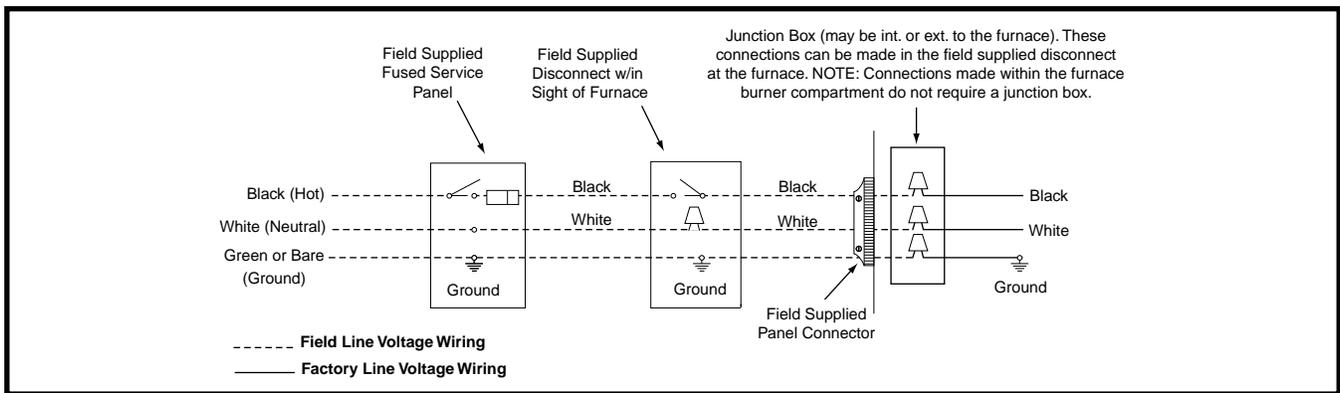
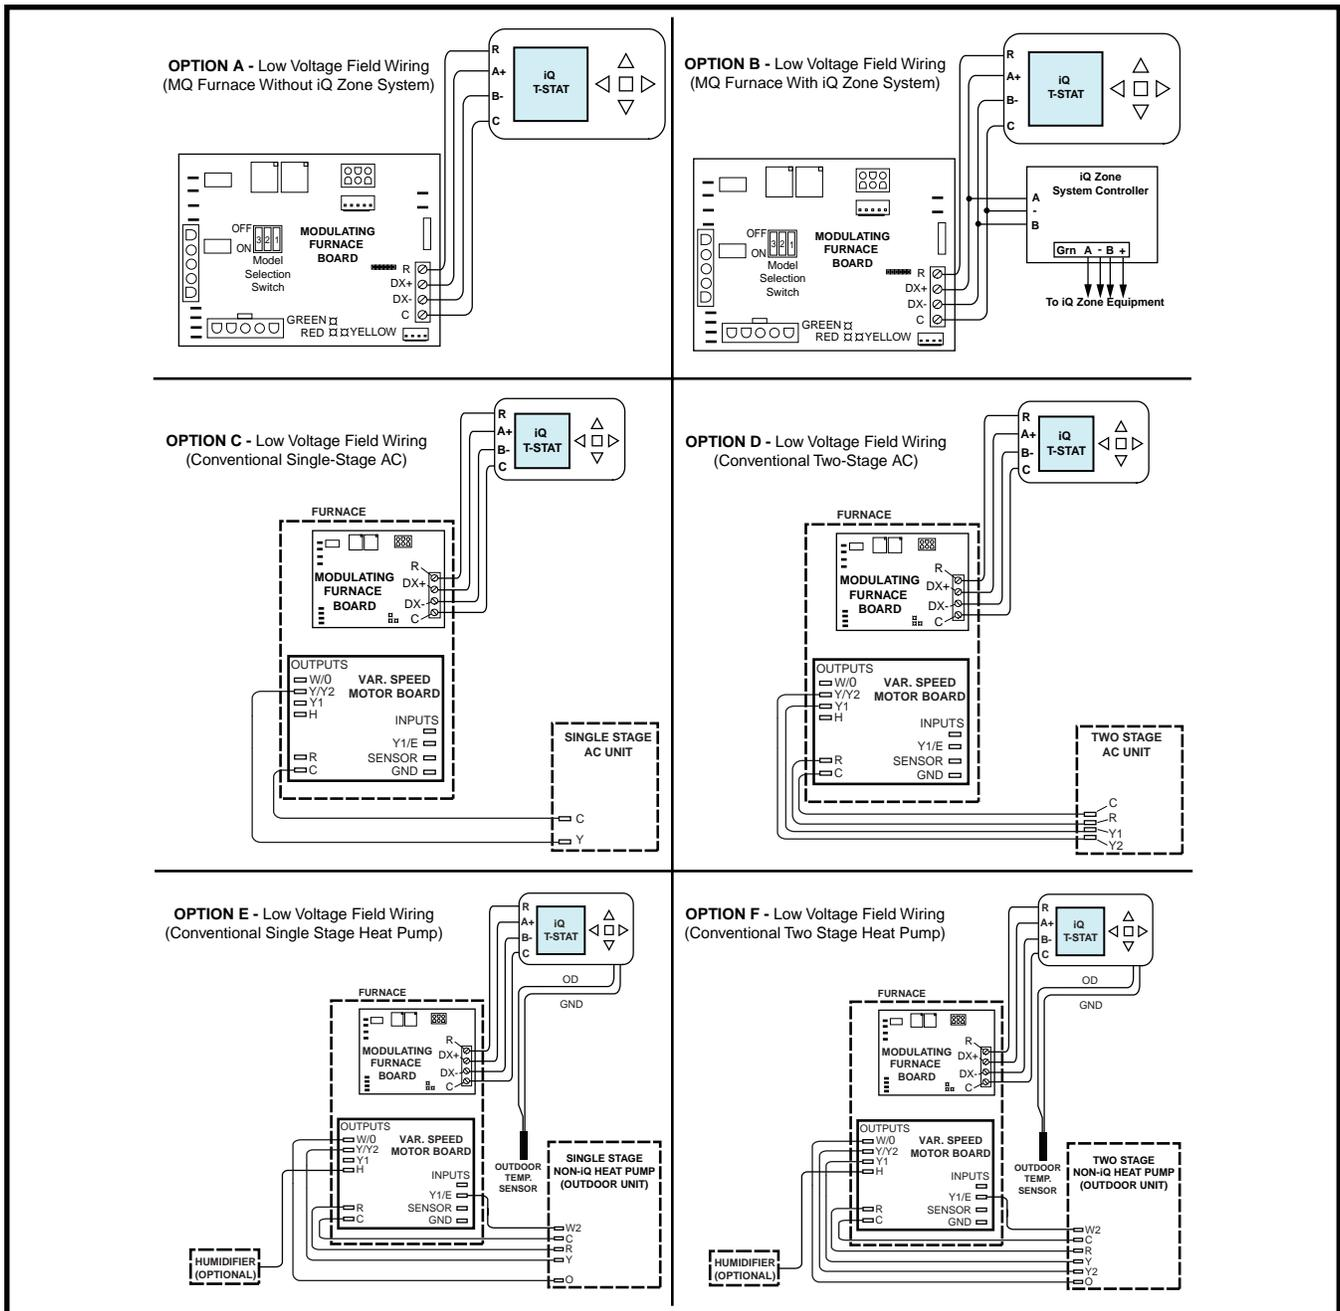

Figure 19. Line Voltage Field Wiring
Figure 20. iQ Wiring Configurations
- An electrical disconnect must be installed readily accessible from and located within sight of the furnace. See Figure 19 or the wiring diagram label inside of the control door. Any other wiring methods must be acceptable to authority having jurisdiction.
- Proper line voltage polarity must be maintained in order for the control system to operate correctly. Verify the incoming neutral line is connected to the white wire and the incoming “Hot” line is connected to the black wire. The furnace will not operate unless the polarity and ground are properly connected as shown in Figure 19.
Field wiring instructions for all iQ system equipment can be found in the iQ Drive System Field Wiring Instructions (P/N 709031). The iQ Drive® thermostat is connected to the furnace by running 4 wires from the thermostat to terminal P5 on the furnace control board. If this MQ furnace is part of an iQ Zone system, refer to Figure 20, \(page 25\). **Field supplied wiring is recommended to be a 4 wire shielded cable and must be a minimum of 18 gauge.**
If installing a single or two-stage conventional heat pump, it is recommended that an outdoor temperature sensor (920938) be installed on the system. The sensor connects to the iQ thermostat as shown in Options E & F in Figure 20, \(page 25\) and measures the outdoor temperature at the unit. The outdoor temperature is displayed on the main screen of the iQ thermostat and the system switches between furnace and heat pump based on the outdoor temperature.
- √ Verify the thermostat wires (**R**, **DX+**, **DX-**, & **C**) are securely connected to the correct leads on the terminal strip of the circuit board. See Figure 20, \(page 25\).
The operating sequences for the heating, cooling, and fan modes are described below. Refer to the field electrical diagrams and furnace wiring diagrams. See Figure 19, \(page 25\), Figure 20, \(page 25\) and Figure 25, \(page 34\).